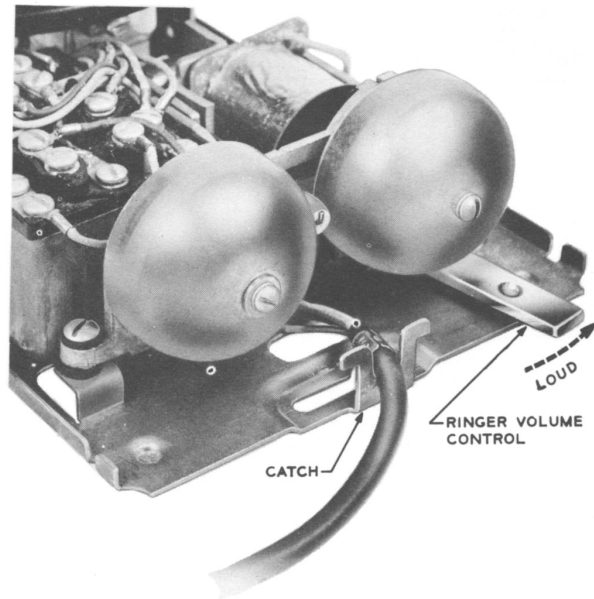

Fig. 3—Interior View of the Set Showing Ringer Volume Control
2.06 The ringer volume is manually controlled by a lever extended through the bottom of the housing (see Fig. 3).